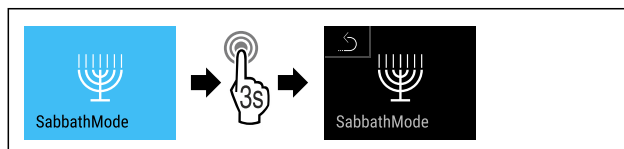

Fig. 72
- ▶ Complete the steps (see Fig. 72).